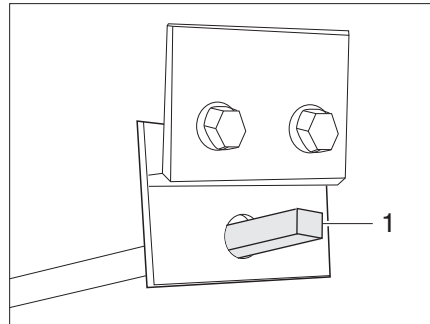

Fig. 96 Operation of the waste water tap
- Place the key onto the square bolt (Fig. 96,1).